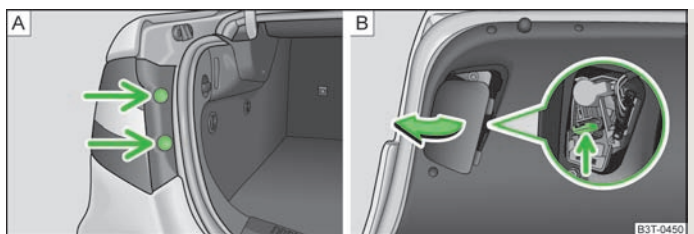

Fig. 192 Outer part of the tail light/Removing the internal part of the tail light
- › Remove the plug » Fig. 192 - **A** and unscrew the tail light with a torx wrench » page 203, *Vehicle tool kit*.
- › Screw the tail light into place and push in the plugs » Fig. 192 - **A**.
- › Remove the tail light cover on the inner side of the boot lid » Fig. 192 - **B**.
- › Press the lug » Fig. 192 - **B** and remove the lamp holder from the tail light housing.